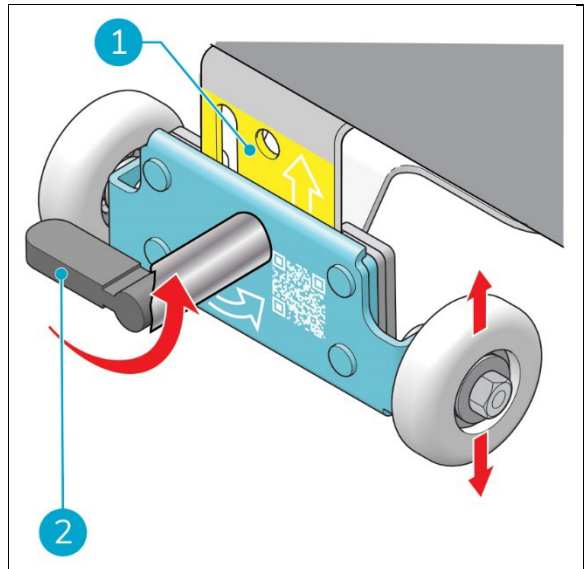

Figure 24
2. Turn the lever (Figure 24, pos 2) 180° following the arrow .
3. Pull the lifter kit down. The yellow part shows (Figure 24, pos 1).